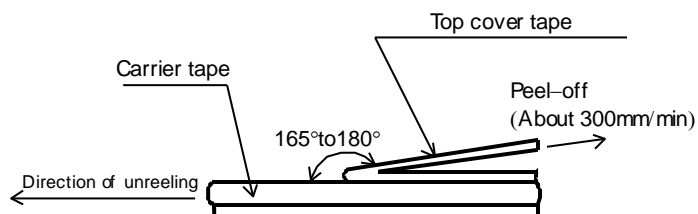

Figure-7
- 5). The peel strength of the top cover tape shall be within 0.1N to 0.5N on the test method as shown in the following Figure-7.